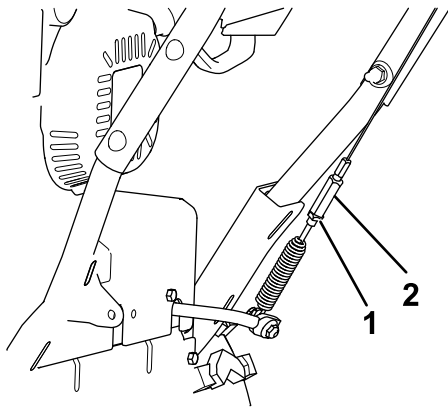

Figure 30
5. Loosen the jam nut (Figure 30).
6. Loosen or tighten the turnbuckle that adjusts the tension on the cable (Figure 30).